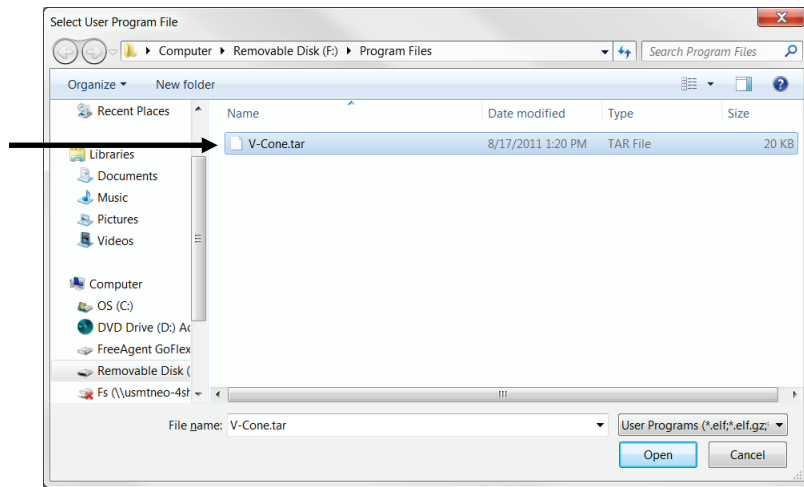

Figure 2-4. Select User Program File
2. Click **Browse** in the Download User Program File frame. The Select User Program File screen displays (see *Figure 2-4*).
3. Select the path and user program file to download from the CD-ROM. (Program files are typically located in the Program Files folder on the CD-ROM.) As *Figure 2-4* shows, the screen lists all valid user program files with the .TAR extension: